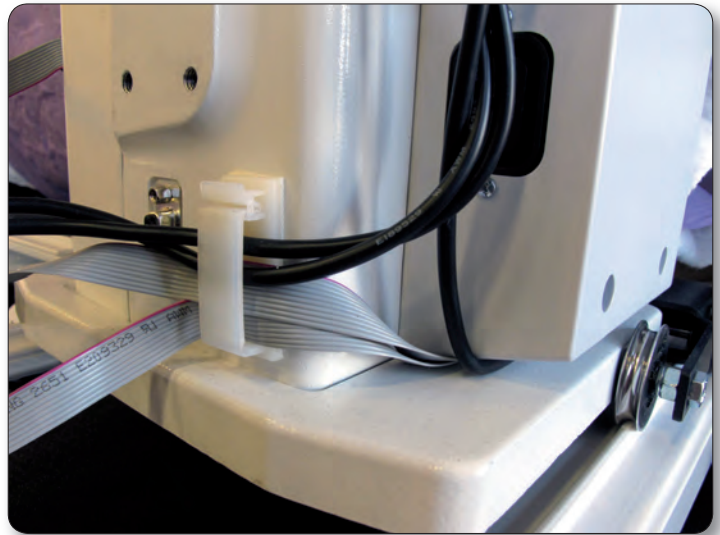
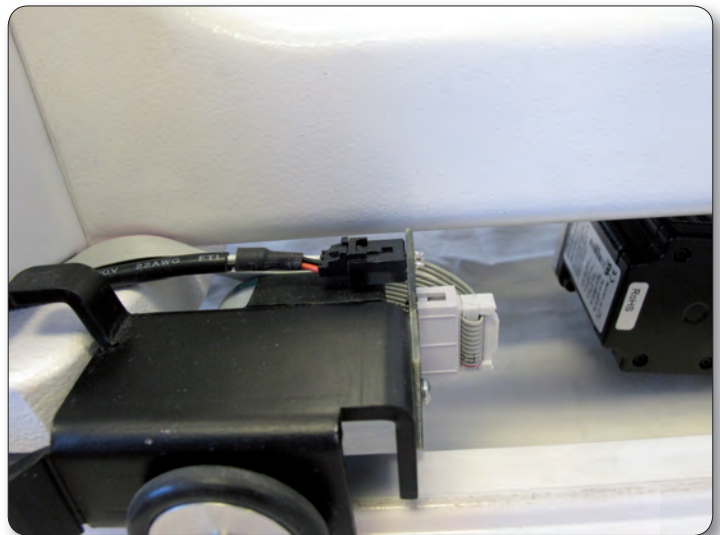

Figure 16
Figure 17
7. The small black cable with the black 3-connector clip should be routed underneath the P-Pod (Figure 16) and snapped into the quilting machine’s “Y” encoder (Figure 17).
The two black cables that run from the carriage up to the computer should be clipped into the cable clip under the rear handlebar as shown in Figure 16 to help prevent these cables from getting caught on the edges of the carriage.